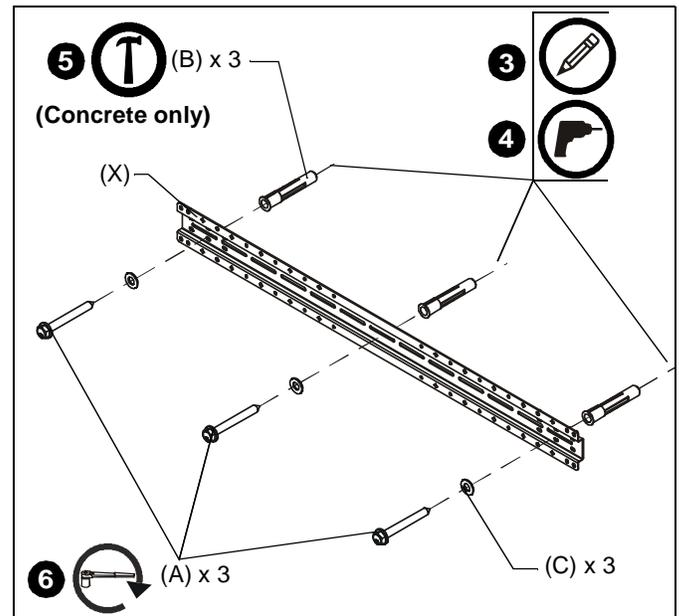

Figure 2
2. **Wood stud only:** Make sure that mounting slots in wall plate (X) are placed over studs.
4. **Wood stud:** Drill three 7/32" x 2-3/4" pilot holes at marked locations. **Concrete:** Drill three 3/8" x 3-1/2" pilot holes at marked locations. (See Figure 2)
5. **Concrete only:** Install an anchor (B) into each pilot hole using a hammer, making sure that the anchor is flush with the wall.
6. Secure upper wall plate (X) to wall using three 5/16 x 2-3/4" hex head lag screws (A) and three 5/16" washers (C). (See Figure 2)